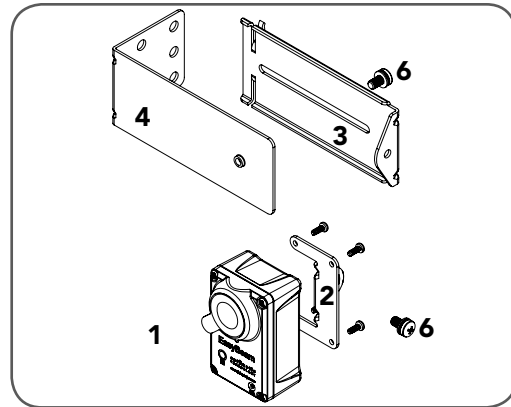

fig 39
- Attach the mounting bracket (4) to the adjustment bracket (3) with the pan head screw (6) (supplied). (Fig. 39)